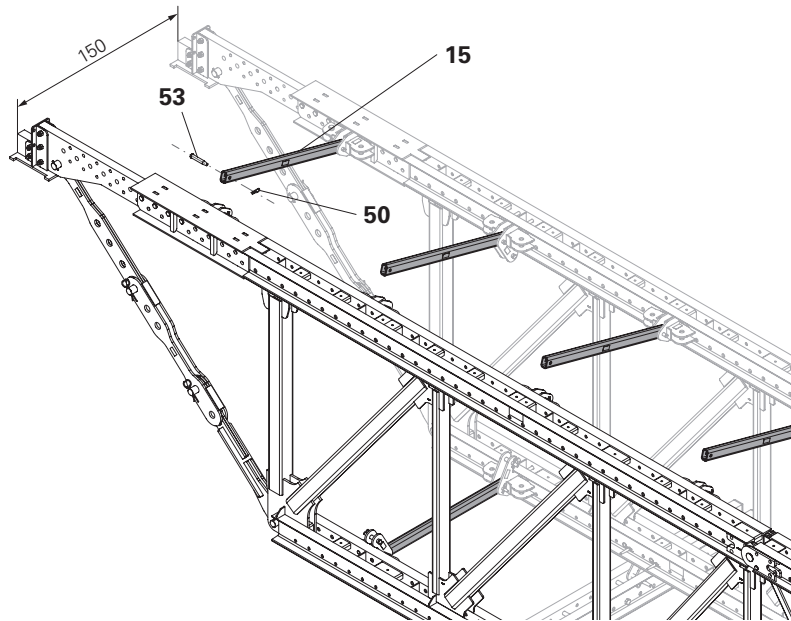

Fig. B2.07
1. Fix all pre-assembled bracing posts (**15**) to the second single truss using filler pins (**53**) and secure with cotter pins (**50**). (Fig. B2.07)
Fig. B2.07 is rotated by 180° for better representation.